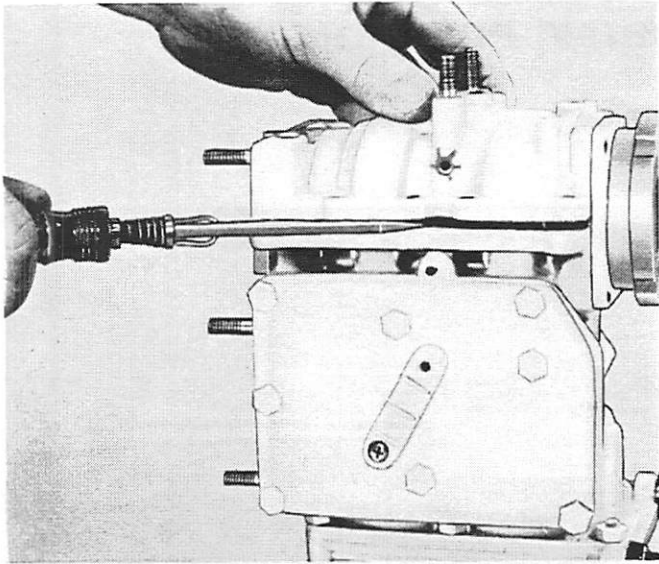

Figure 4. Separating Crankcase and Cylinder Block
5. Separate crankcase from cylinder block by prying apart at special recesses with screwdriver. (Figure 4) One recess is located on each side in center.